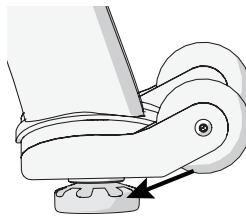

Figure 14
- 1. Try to rock the bike. If there is any movement, tip the bike to one side to locate the adjustable feet (Figure 14).